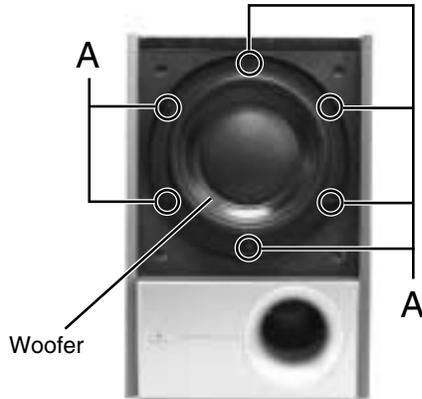

Fig.3
■ Removing the woofer (See Fig.3 and 4)